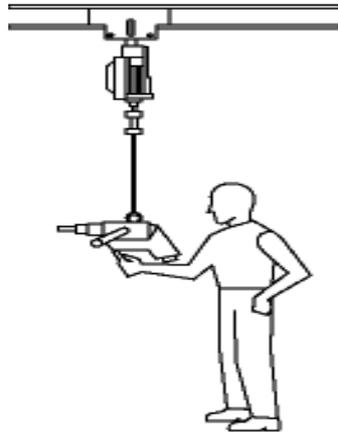

Figure 5b
- Use tool balancers to reduce the effort of holding and operating the tool (Figure 5b).